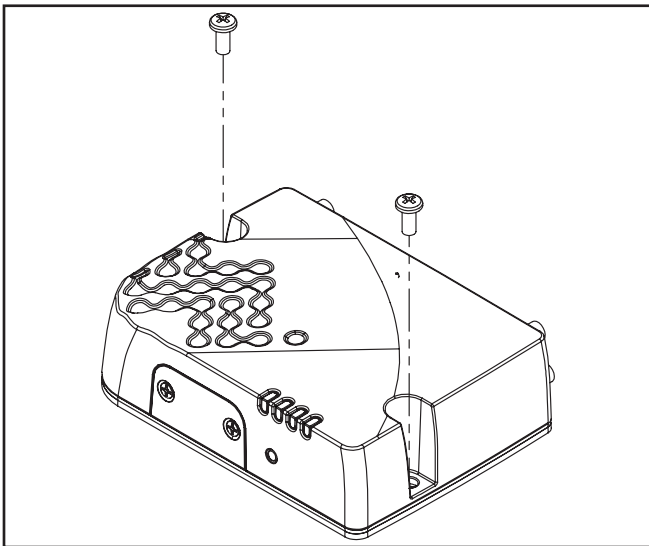

Figure 1.
2. Use a #8 Phillips driver to remove gateway. (Figure 1.)